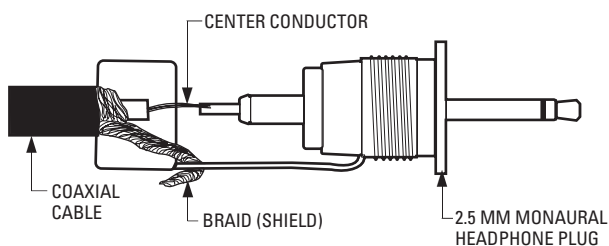

Figure 16. Attaching the 2.5 mm Monaural Headphone Plug
2. Attach the 2.5 mm monaural plug to the other end of the coaxial cable (refer to Figure 16):